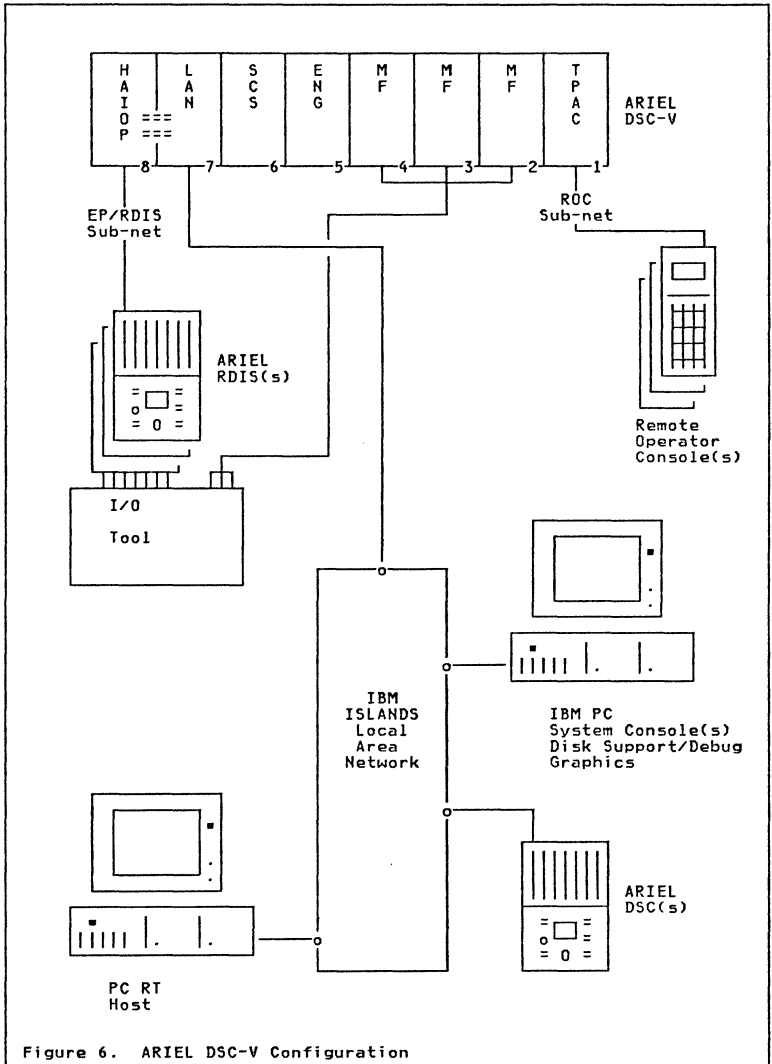

Figure 6. ARIEL DSC-V Configuration
Figure 6 shows a Logic Block configured as a DSC-V. This configuration utilizes the ENG, SCS, and TPAC cards in the same way as the ARIEL DSC-IV but replaces the AP/SCA and AP/CSS cards with the HAIOP and LAN cards. The HAIOP card provides a connection to the Enhanced Protocol (EP)/RDIS Sub-Network. It also attaches to the LAN card through a top card cross-over connector to provide the ARIEL DSC-V with a connection to the IBM